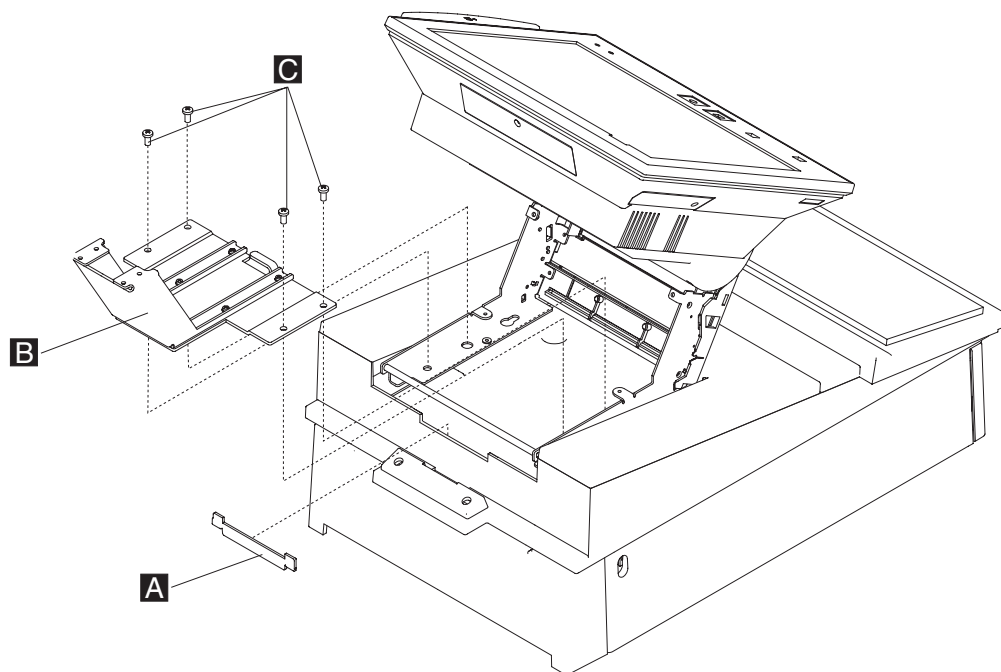

Figure 49. Removing the 4820 SurePoint Solution base plate from a keyboard integration tray
- d. Remove the 4820 base plate from the integration tray by removing the four screws **C** from the display mounting bracket **B**, as shown in Figure 49 on page 67. Carefully place the 4820 display on a smooth, clean surface.
Note: Spacer **A**, in Figure 49 is not used when the 4820 is attached. If you are permanently removing the 4820, you must replace this spacer.